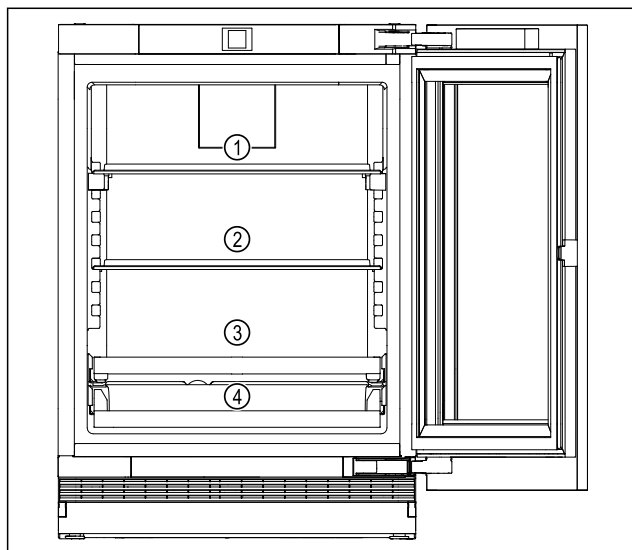

Fig. 5 Example illustration
- Upper area Fig. 5 (1): Store cans, smaller bottles.
- Middle area Fig. 5 (2): Store cans, smaller bottles.
- Lower area Fig. 5 (3): Store cans, smaller bottles.
- Drinks shelf (4): Store cans, smaller bottles.